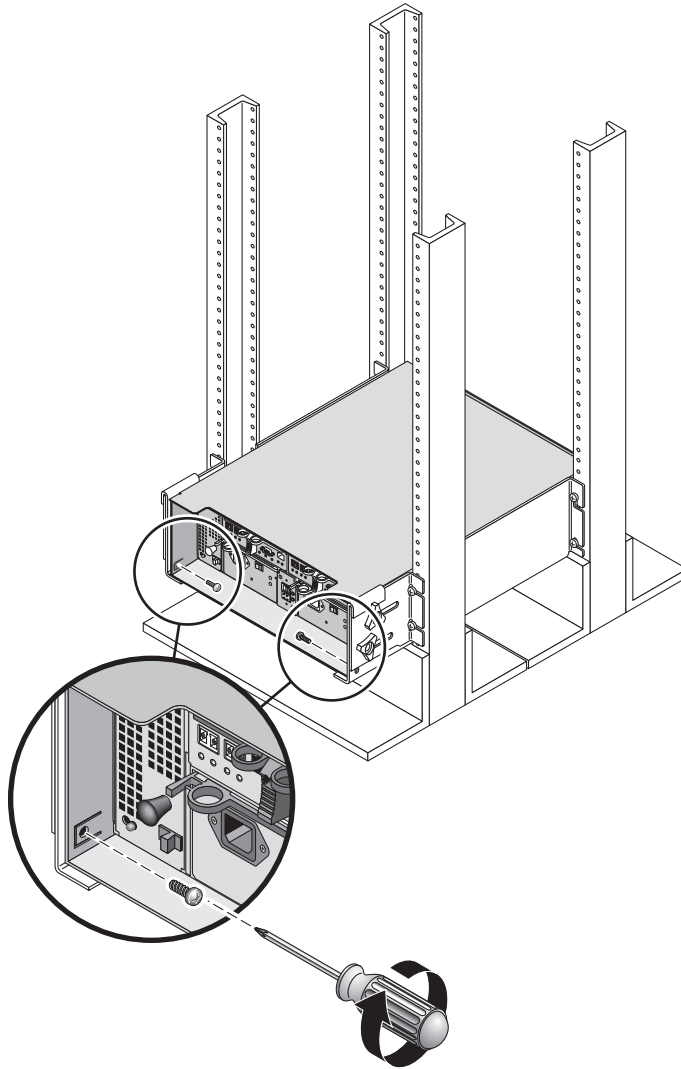

FIGURE 2-35 Securing the Tray to the Back of the Rack
6. At the back of the tray, use the #2 Phillips screwdriver to install and tighten two 8-32 screws (one per side) through the back mounting points (FIGURE 2-35).